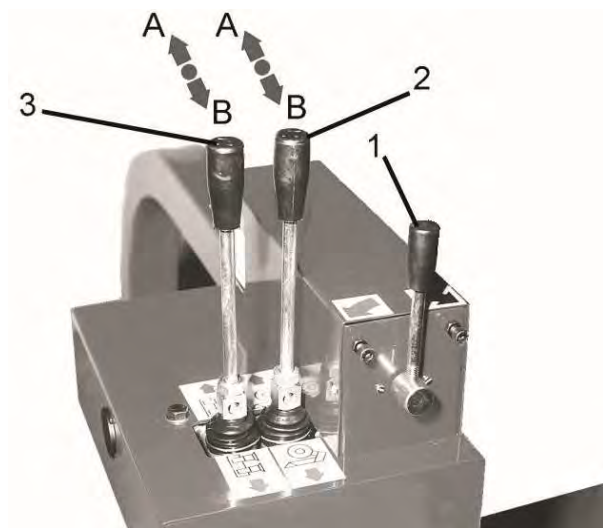

Fig.14
B. Operate the chuck rotation switch (#1 Fig.14) to the right : the chuck rotates clockwise.
C. Operate the chuck arm control (#2 Fig.14) to position **A** : the chuck arm moves upwards.
D. Operate the toolholder carriage control (#3 Fig.14) to position **A** : the carriage moves towards the machine.